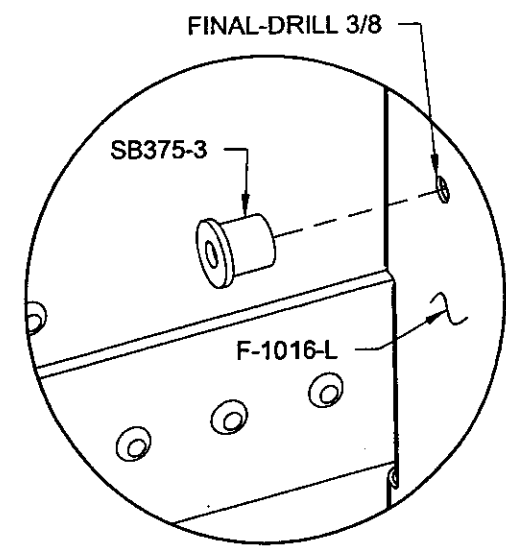

FIGURE 3: INSTALLING SNAP BUSHING IN THE FOOT WELL RIB
Step 2: Enlarge the tooling hole in the F-1016-L Outboard Foot Well Rib as shown in Figure 3 for the snap bushing called out.